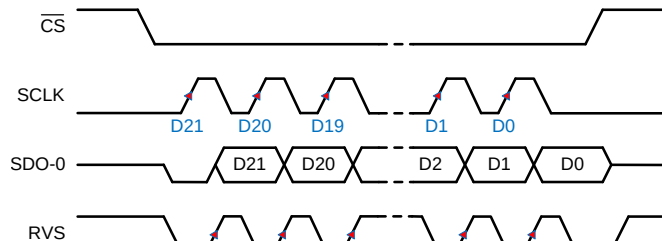

**Figure 73. SRC-EXT-SS: SRC, SCLK, Single SDO, SDR**
| SRC-EXT-SS | SCLK (1)       | Single    | SDR              | 00h, 01h, 02h, or 03h (2) | 03h      | 9                                  | <a href="#">Figure 73</a> |
Figure 73 to Figure 84 show the details of various source synchronous protocols. Table 9 shows the number of output clocks required in an optimal read frame for the different output protocol selections.